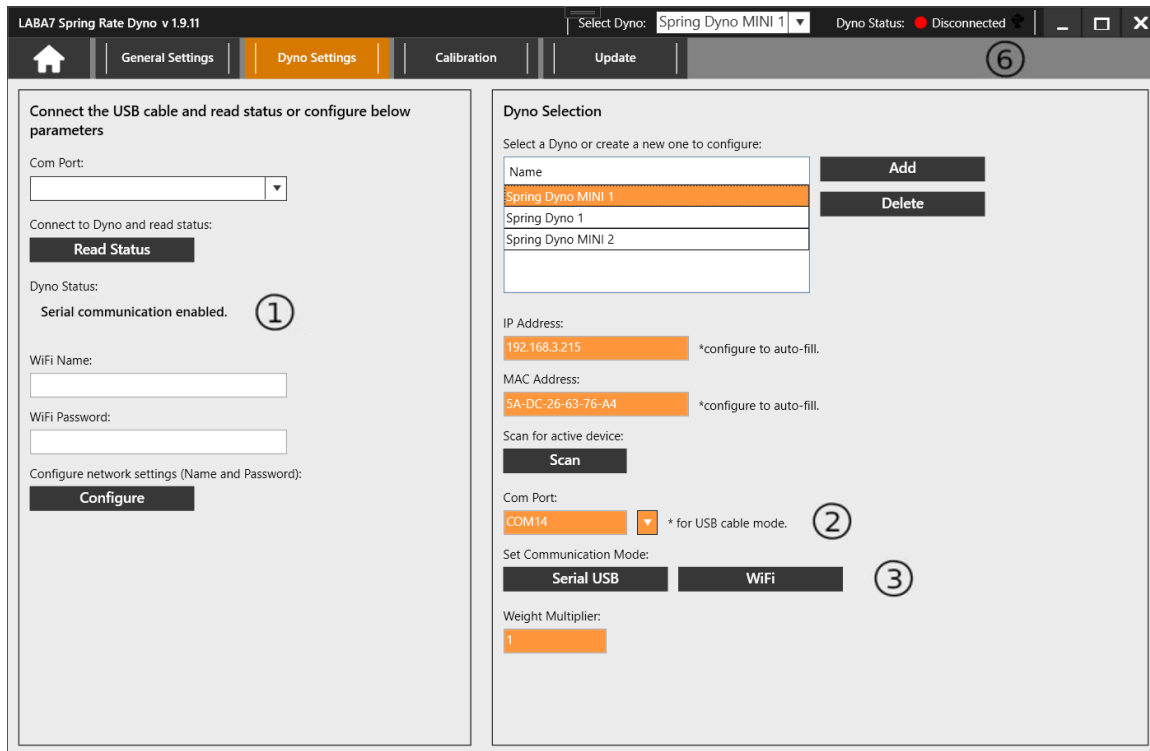

Figure 13
9. Note the Status that was received from the Dyno (Figure 13 – Step 1).
11. Select the Com Port of the connected Dyno from the drop-down menu in the Dyno Selection area (Figure 13 – Step 2).
12. Click on the **Serial USB** button to enable the USB communication mode in the Dyno (Figure 13 – Step 3).